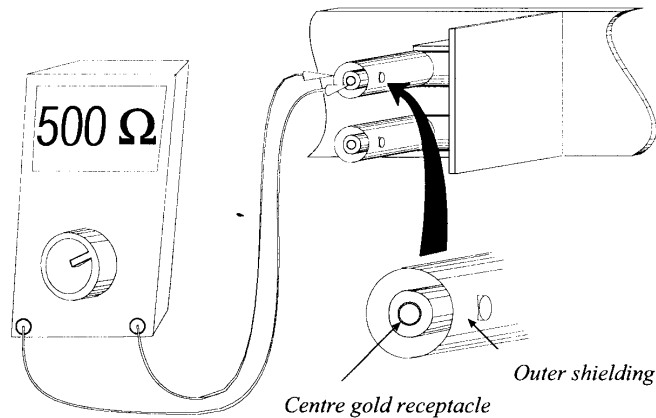

Figure 5. Measuring Resistance Across the Potentiometer
5. Measure the resistance of the Gain potentiometer using a digital ohmmeter. One lead should touch the center gold receptacle; the other, the outer shielding. See Figure 5.
6. Rotate the knob fully clockwise until the potentiometer reaches its turning limit. If the knob is in the proper position, it will be pointing just past the 1000 foot mark on the panel. If the knob indicates a distance of 1000 feet or less, gently turn the knob clockwise until it points to just past 1000 feet. The knob will slip turn on the potentiometer shaft. See Figure 5.